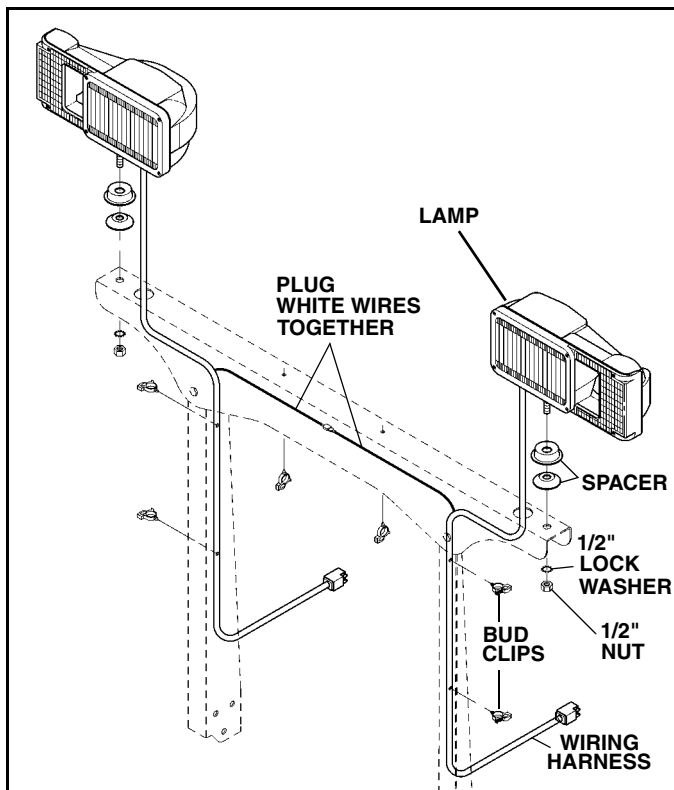

Figure 1-20
Mount lamps on light bar using supplied 1/2" lock washers and nuts. (See Figure 1-20).
42. Route the harnesses through the light bar, through the access hole and down the inside of the light bar supports. Route the white wire from each lamp along the underside of the light bar and connect. (See Figure 1-20).